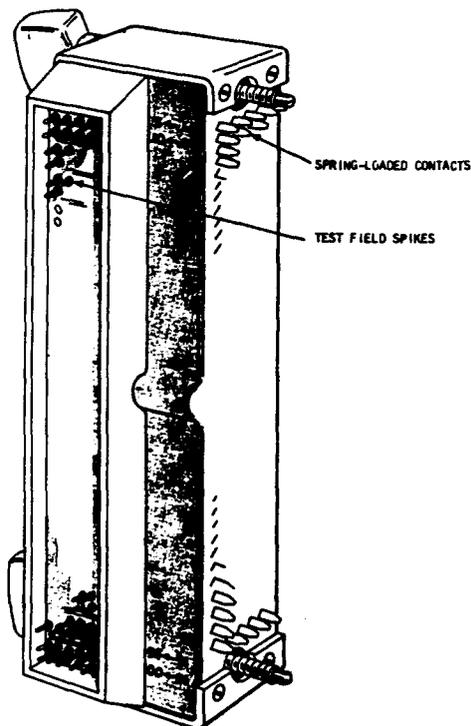

Figure 9—N Test Connector (AT-8882)—For 305-Type Connectors
2.10 The N test connector (Figure 9) is used to make test contacts with the 100-pair test terminal field of the 305-type connector. The test connector contains 200 (100 pairs) spring-loaded contacts that are internally connected to 200 (100 pairs) exposed test field spikes (contacts). The test field spikes are located on the side of the test connector. The test spikes permit the attachment of test cords to equipment and provide a means of testing one cable pair at a time.